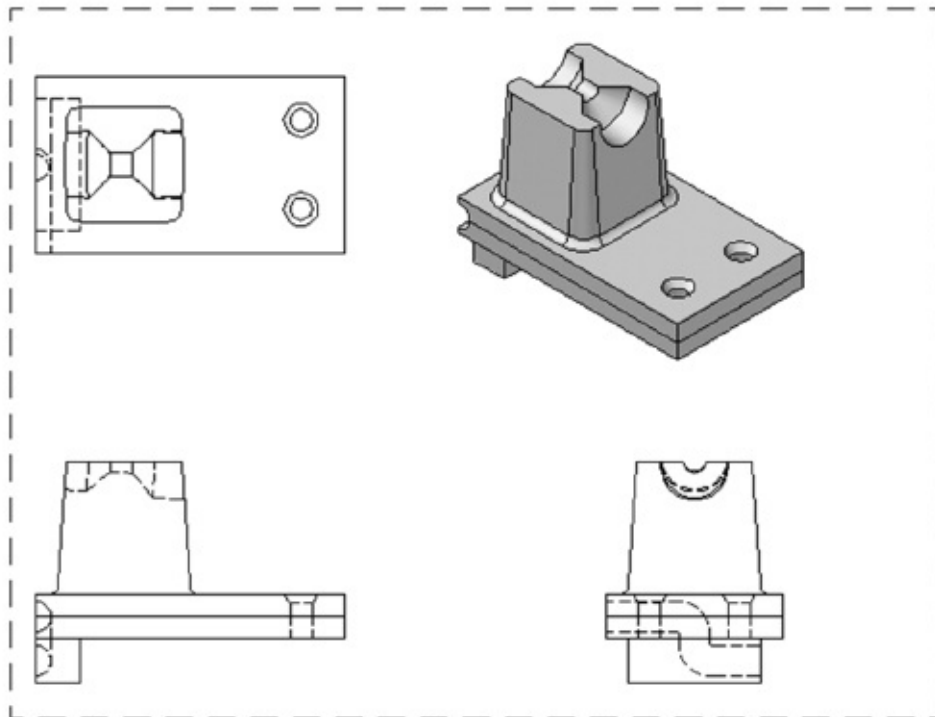

FIGURE 22.38 The Viewbase command can quickly create projection views of your 3D model.
5. Move the cursor around the first view that you inserted. The appropriate views—left, right, and isometric—will be previewed, as shown in Figure 22.38. When you have inserted all the views you want, press Enter.